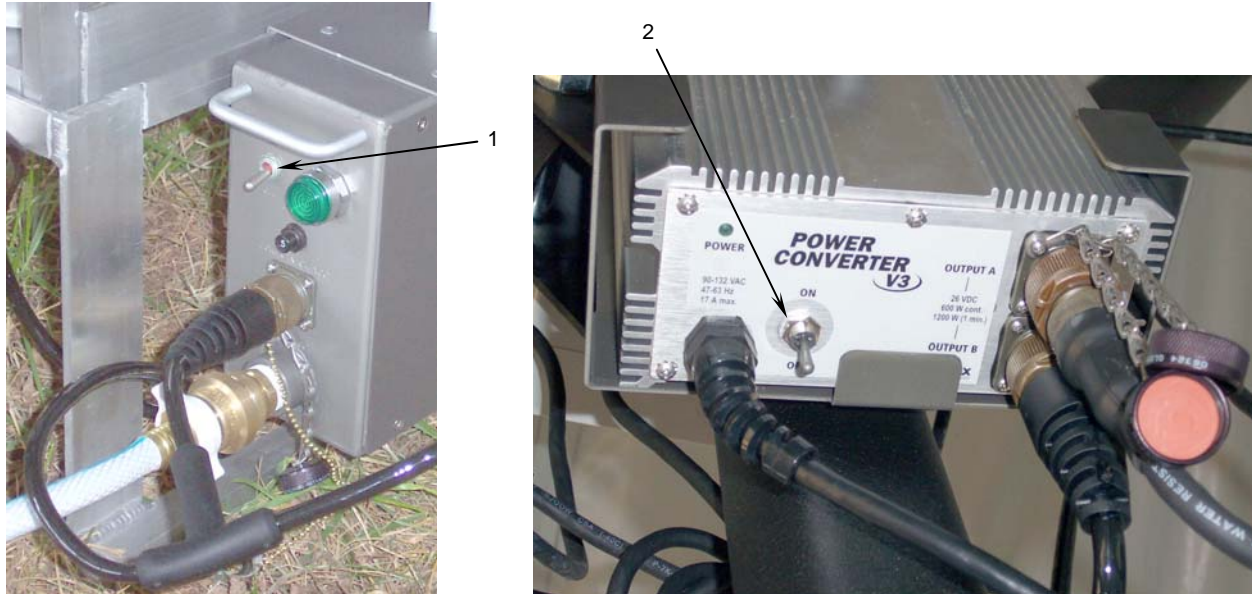

Figure 31. Shutting Down the FSC Equipment.
- h. Switch off the sink fill pump assembly power switch (**Figure 31, Item 1**).
- i. Switch off the power converter power switch (**Figure 31, Item 2**).